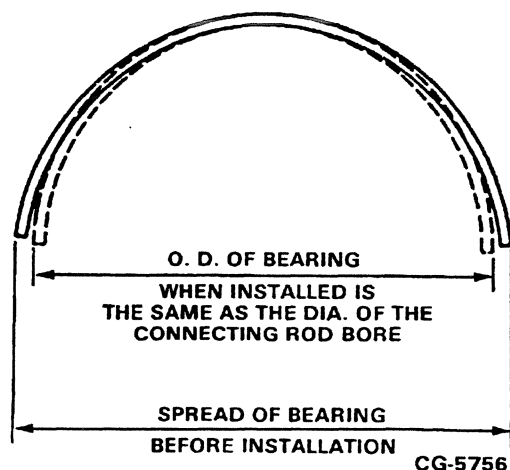

Figure 5.34A. Bearing Spread
**NOTE: ABOUT BEARING CRUSH AND SPREAD!** Bearing shells must fit tightly in the bore. When bearing shells are inserted into the connecting rod and cap, they protrude above the parting line. This protrusion is required to achieve "BEARING CRUSH". Bearing shells are designed with "SPREAD". That is, the width across the open ends are slightly larger than the diameter of the connecting rod bore into which they are assembled, as shown in Figure 5.34A. This condition is designed into the bearing shell causing it to spread outward at the parting line when "CRUSH" load is applied by tightening the bolts. Some snap may be lost in normal use, but bearing replacement is not required because of a nominal loss of snap.